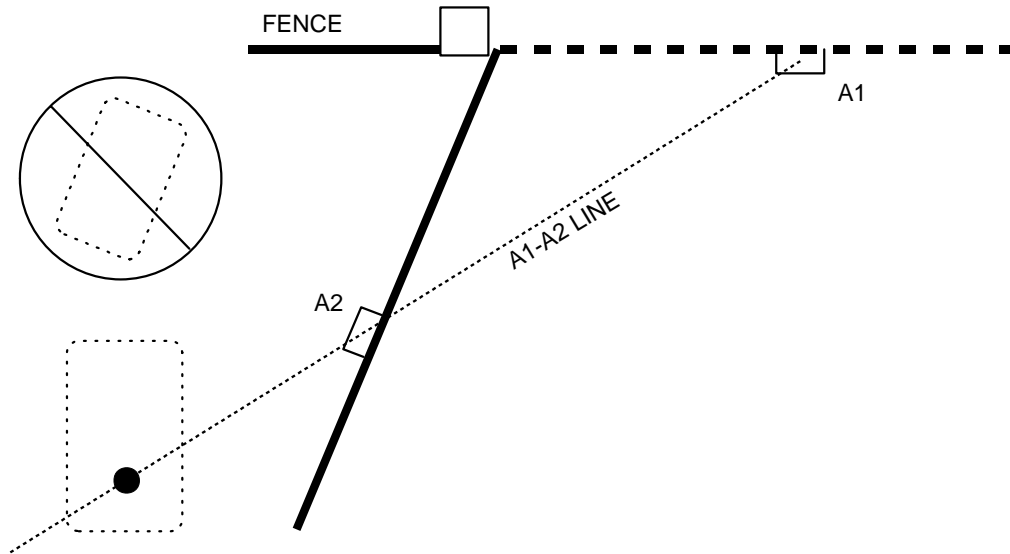

Figure 23
4. Determine where the operator output shaft will be placed. With a string, connect points A1 and A2 and extend this line beyond A2. The operator shaft must be on the A1-A2 line, at least 12 inches away from the gate (Figure 23).